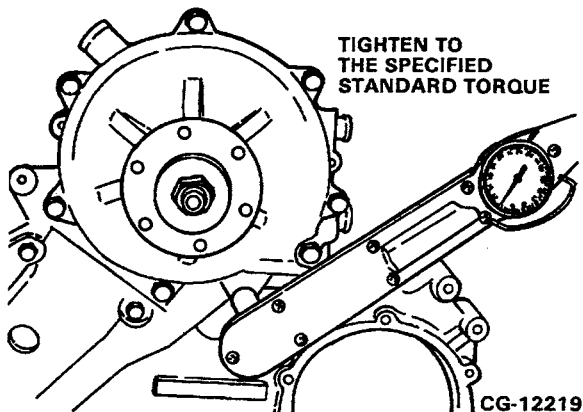

Figure 10.17. Install the Water Pump
2. Install the water pump to the front cover. Tighten the mounting bolts and washers to the specified standard torque. Refer to Figure 10.17.